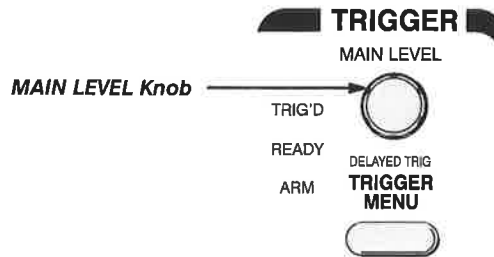

Figure 1-7: TRIGGER Controls
1. To create an unstable display, slowly turn the trigger **MAIN LEVEL** knob (see Figure 1-7) first one direction, then the other. Observe what happens when you move the trigger level above the highest part of the displayed waveform. Leave the trigger level in that untriggered state.